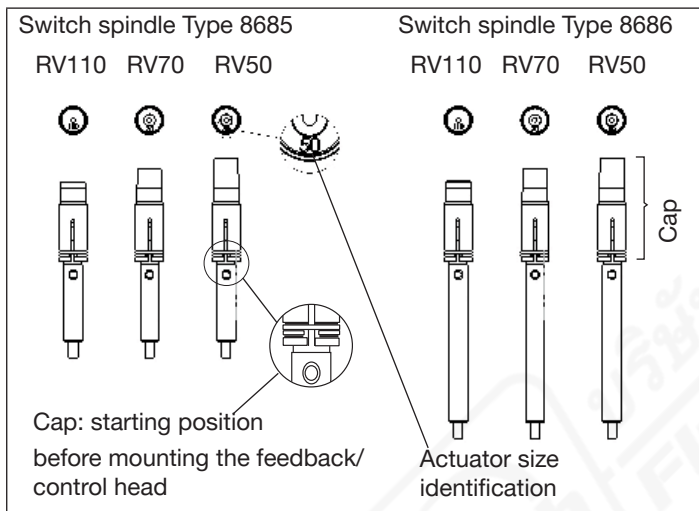

Fig. 5: Switch spindle identification
- Use only switch spindles that match the actuator size. The corresponding actuator size identification (RV50, RV70, RV110) for switch spindles are embossed on the front of the PVC cap (see “Fig. 5”).
→ Select the switch spindle that matches the actuator size (see “Fig. 5: Switch spindle identification”).
- The caps must be in the starting position. If not, move the caps to the starting position (see “Fig. 5”)